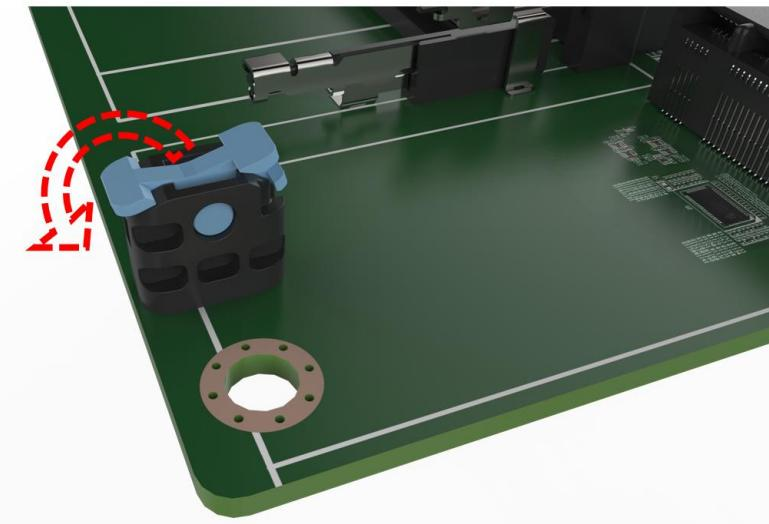

Figure 3-6: Press the end of the M.2 retaining clip
Step 3: Press the end of the M.2 retaining clip. As shown in Figure 3-6.